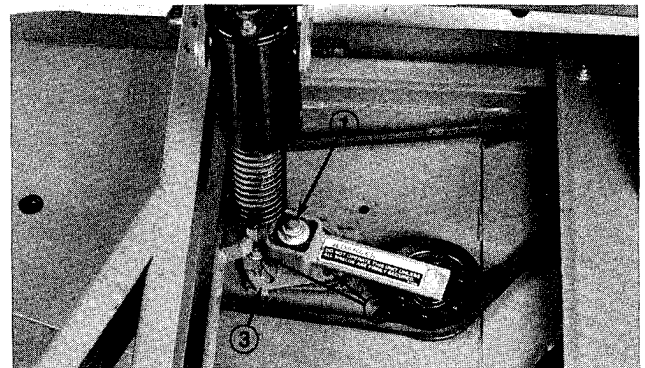

Figure 36
3. Loosen two nuts securing idler plate in place. Using a socket and torque wrench, tighten the idler adjusting nut to 40–50 ft-lb. (Fig. 36).